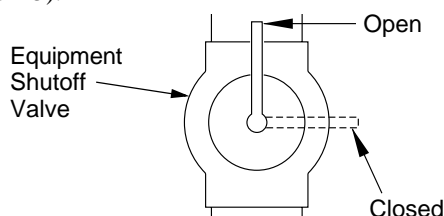

Figure 41 - Equipment Shutoff Valve
1. Close equipment shutoff valve (see Figure 41).
1. Open equipment shutoff valve (see Figure 41).